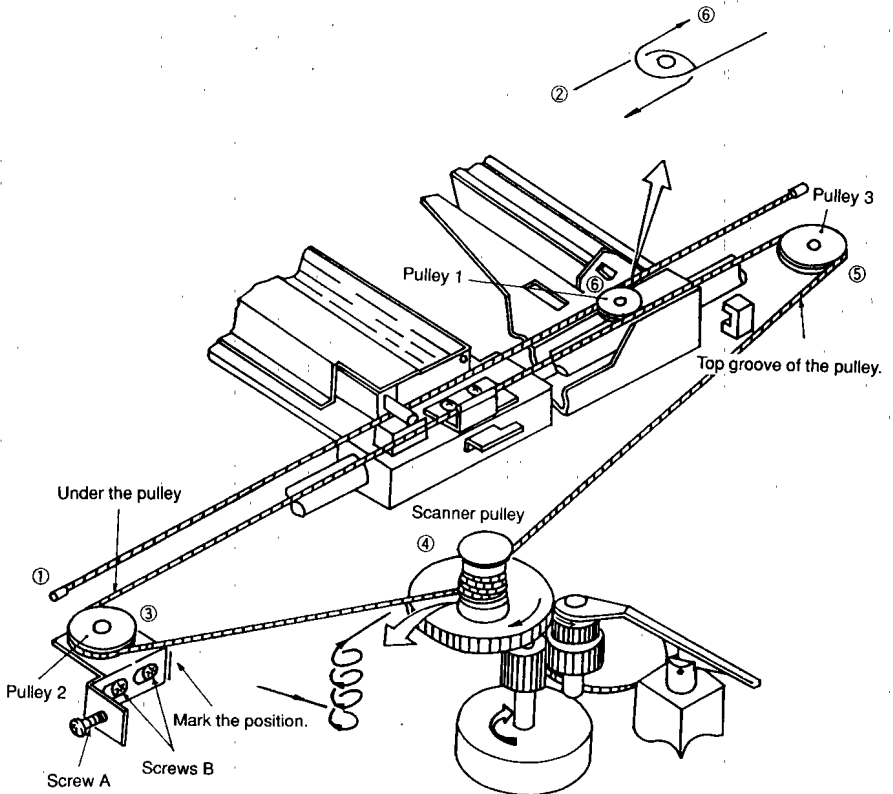

Figure 4-15 Scanner Drive Assembly
- 1) Route the scanner cable as shown in Figure 4-15.